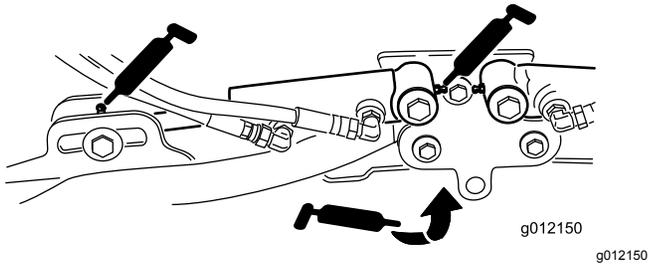

Figure 76
- Cutting-unit lift-arm cylinders (2 each) (Figure 76)
- Lift-arm pivots (1 each) (Figure 76)